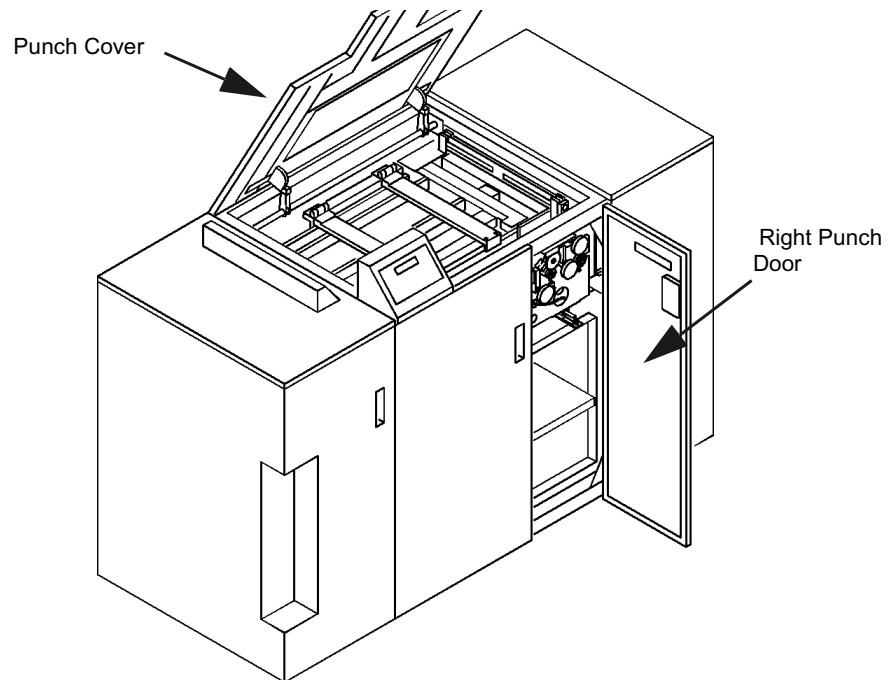

Figure 2-1: Opening the Punch Door and Cover
- 1 Open the Right Punch Door, as shown in Figure 2-1.
- 2 Open the Punch Cover, as shown in Figure 2-1.